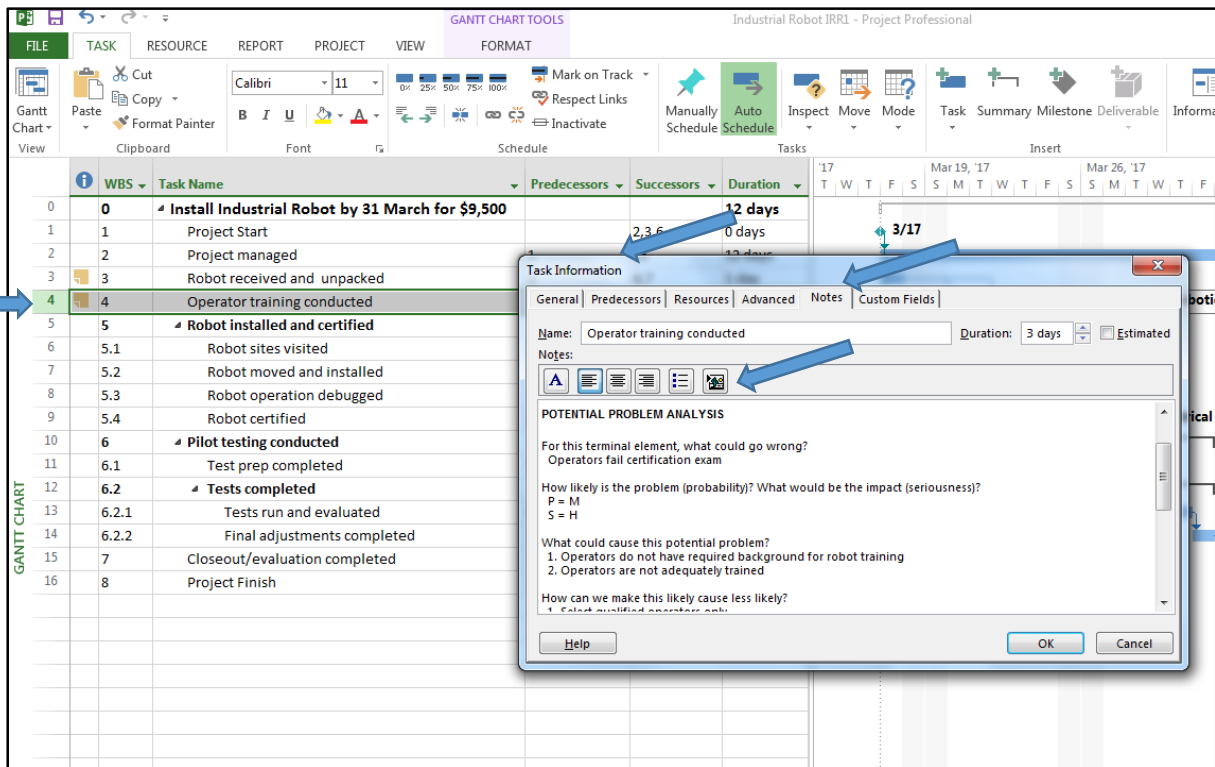

Figure 37
- Once the Potential Problem/Opportunity Analyses have been completed, the worksheets can be attached to the plan (double click on the task to bring up the Task Information dialog box; then select the Notes tab and click on the Insert Object button, similar to the steps for inserting the Project Objectives file). Make sure you attach the PPA/POA to the task note that it relates to. OR you can copy/paste the PPA/POA from another document into the Notes section of the Task Information dialog box (Figure 37).